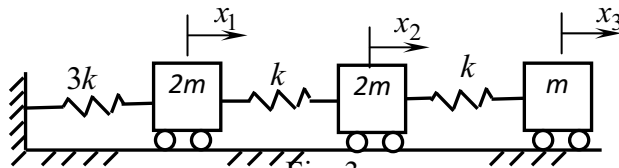

Fig. 3
- 17 Determine the influence coefficients of the triple pendulum shown in Fig.3.
- 19 Determine the natural frequencies of the system shown in Fig. 3. Use Holzer's method
- 20 Using matrix iteration method, determine first two natural frequencies of the system shown in Fig. 3